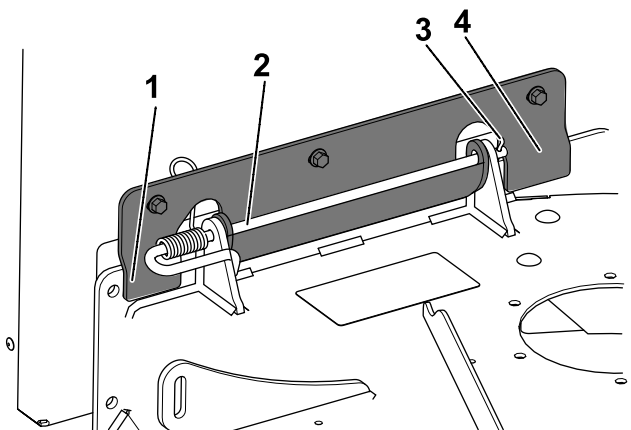

Рисунок 12
1. Position the front and rear tab on the bagger mounting bracket onto the machine as shown in Рисунок 12.
4. Install the previously removed rod and corresponding cotter pin; refer to Рисунок 12.